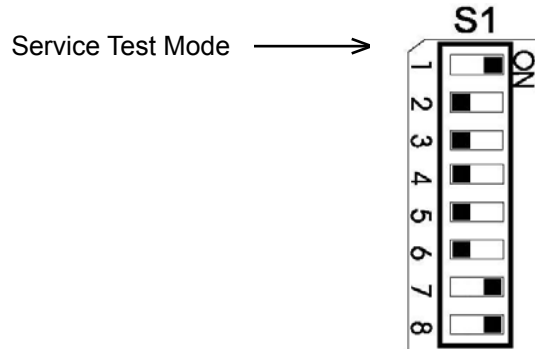

Figure 53 DIP Switch Settings
1. On the Supra board, set DIP switch S1-1 to the ON position to place the door operator in Service Test mode. See Figure 53.